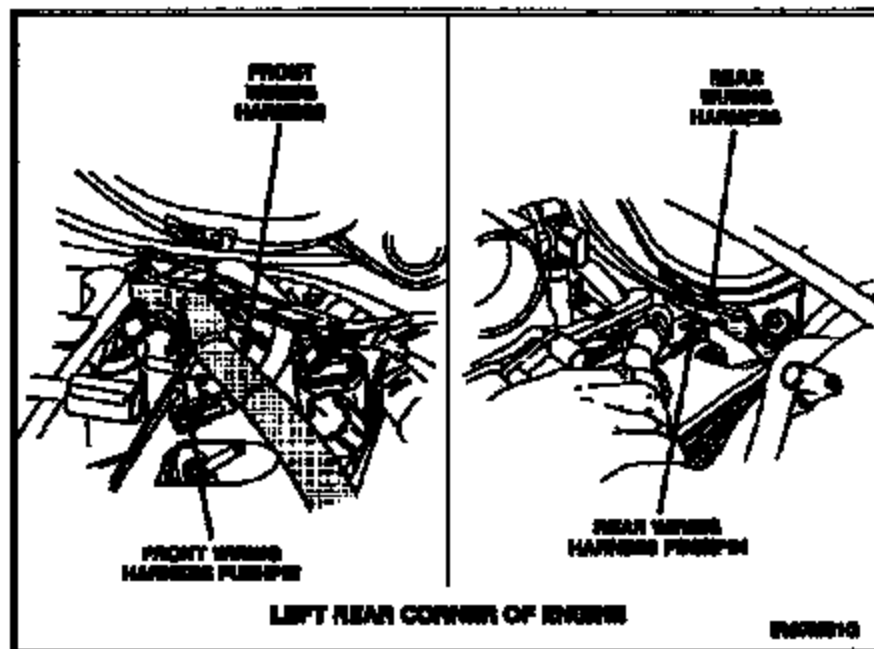

Figure 7
25. Detach two (2) wiring harnesses from clip on left rear of intake manifold. See Figure 7. Push both harnesses toward bulkhead clearing intake manifold.